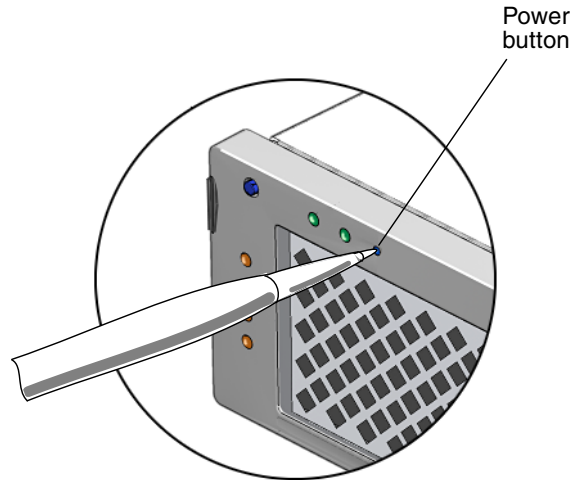

FIGURE 3-90 Powering On the Server
- Use the tip of a pen or other stylus to press the Power button on the bezel (FIGURE 3-90).